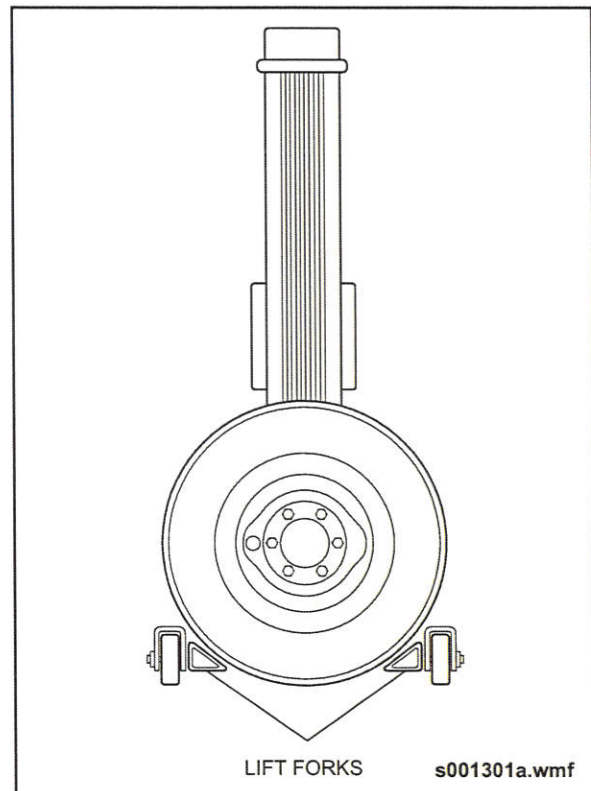
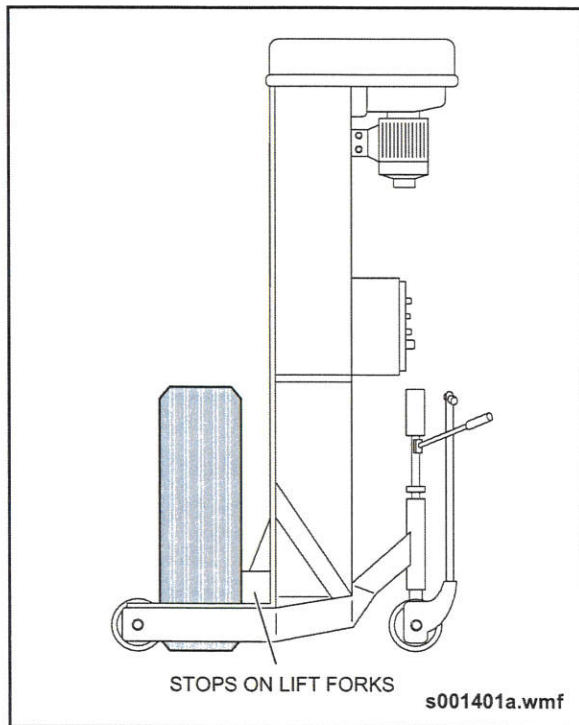

Fig. GI-15: Typical Wheel Lifts
Fig. GI-16: Wheel Placement in Hoist
1. Position wheel lift, centering each tire exactly between the lift forks. Make sure each tire is tightened up against the stop. See "Fig. GI-15: Typical Wheel Lifts" on page 36. See "Fig. GI-16: Wheel Placement in Hoist" on page 37.